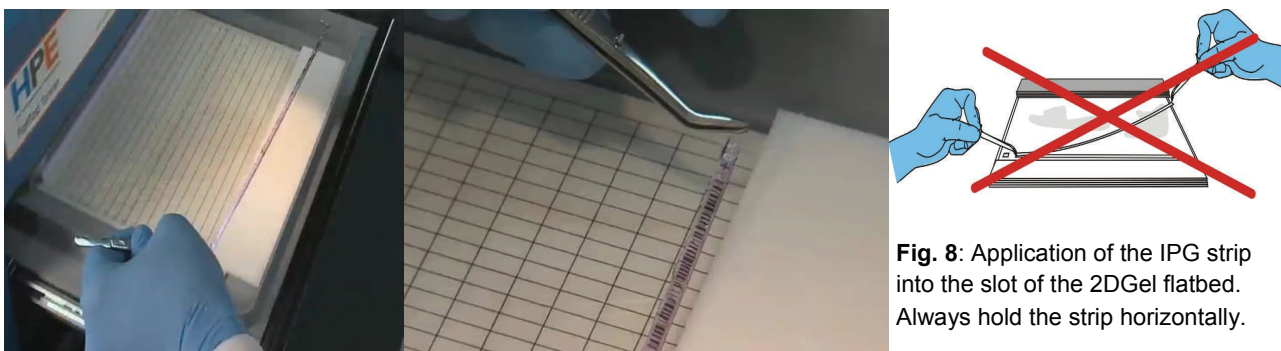

Fig. 8: Application of the IPG strip into the slot of the 2DGel flatbed. Always hold the strip horizontally.
12. Place the IPG strip gel-side down anodal side to the right, into the slot of the Flatbed Gel (fig. 8). Start in the middle to prevent accumulation of buffer towards one side. Push it carefully towards the anode edge of the slot. Slide along the backing of the strip with the forceps to ensure good contact to the bottom of the slot.